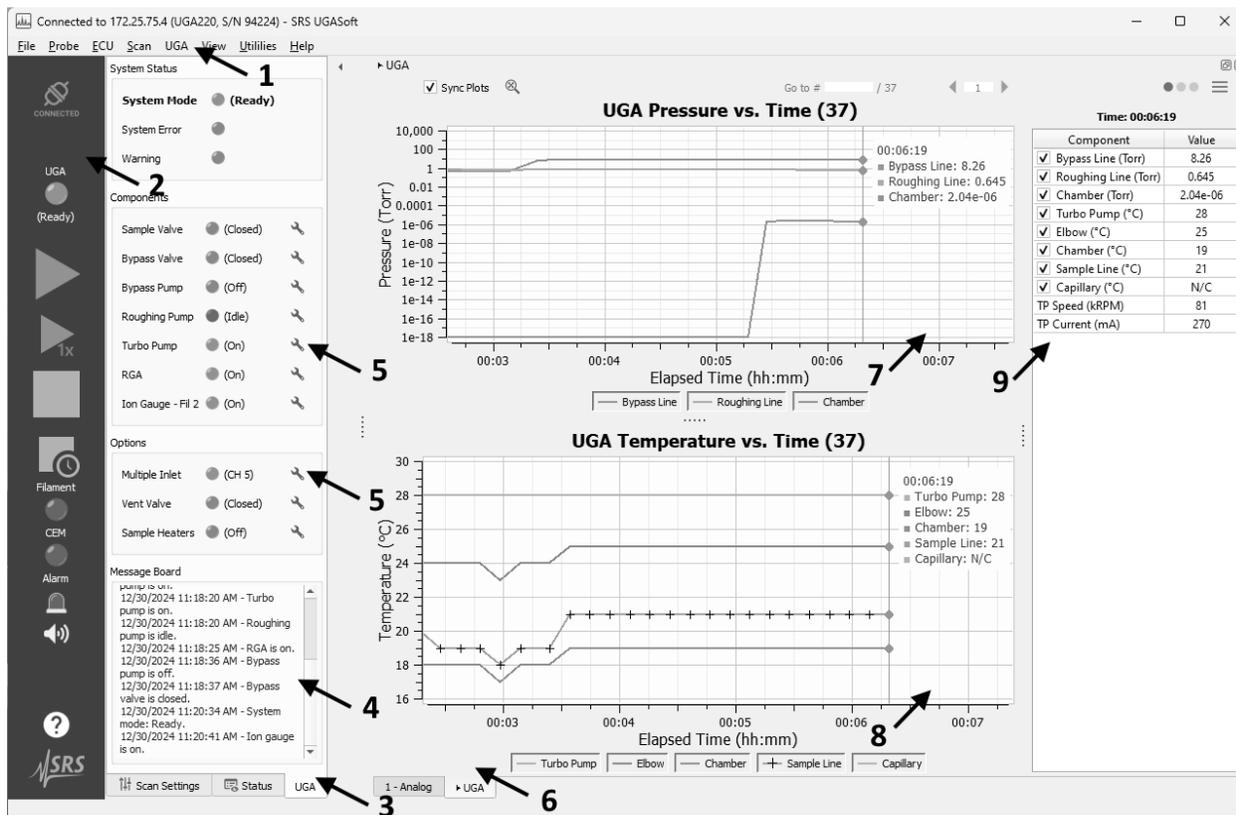

Fig. 2-11. Annotation of the UGA user interface.
The UGASoft program provides an integrated user interface (UI) containing functions and controls of both UGA and RGA systems. The UI is composed of several areas - menu, side bar, control panel, docking windows, etc (Fig. 2-11). Following sections focus on the displays and controls of UGA components. For functions and controls of the RGA, please refer to the RGA manual or the software’s Online Help for detailed information.